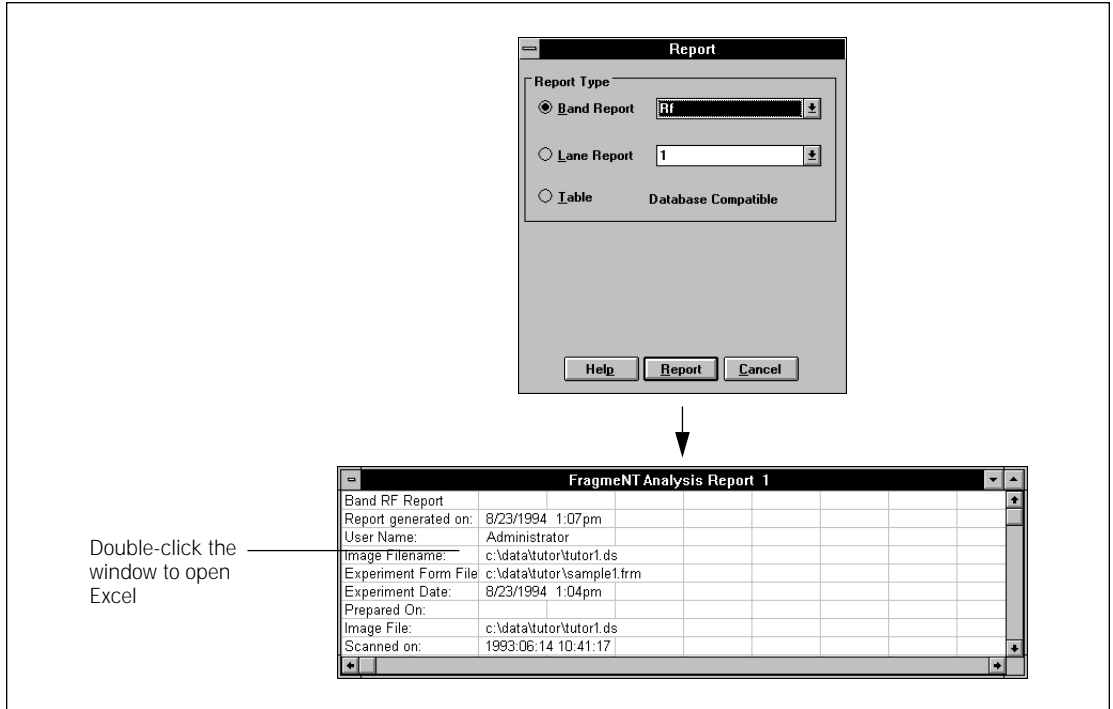

Figure 4-3. Reporting results.
- **Report**—Displays the Report window (figure 4-3) for specifying report contents. After you make your selections and click the **Report** button, the Fragment Analysis Report window appears. Double-click in this window to transfer the results to Excel. (Data must be saved from Excel.) See section 6.5 for details.
1. In the Band Statistics inspector, click the **Report** button. The Report window appears (figure 4-3).